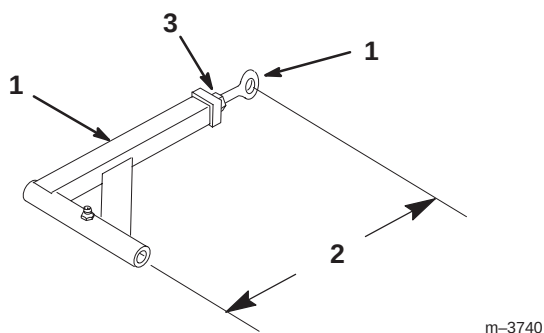

Figure 61
9. If the fixed idler contacts the end of the adjustment slot and more belt tension is required, a small change to lengthen the push arms can be made (Fig. 61).